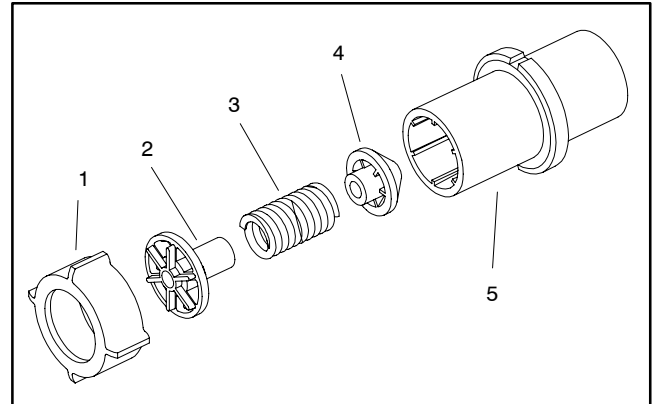

Figure 20
5. Disassemble pressure relief valve using Figure 20 as a guide.